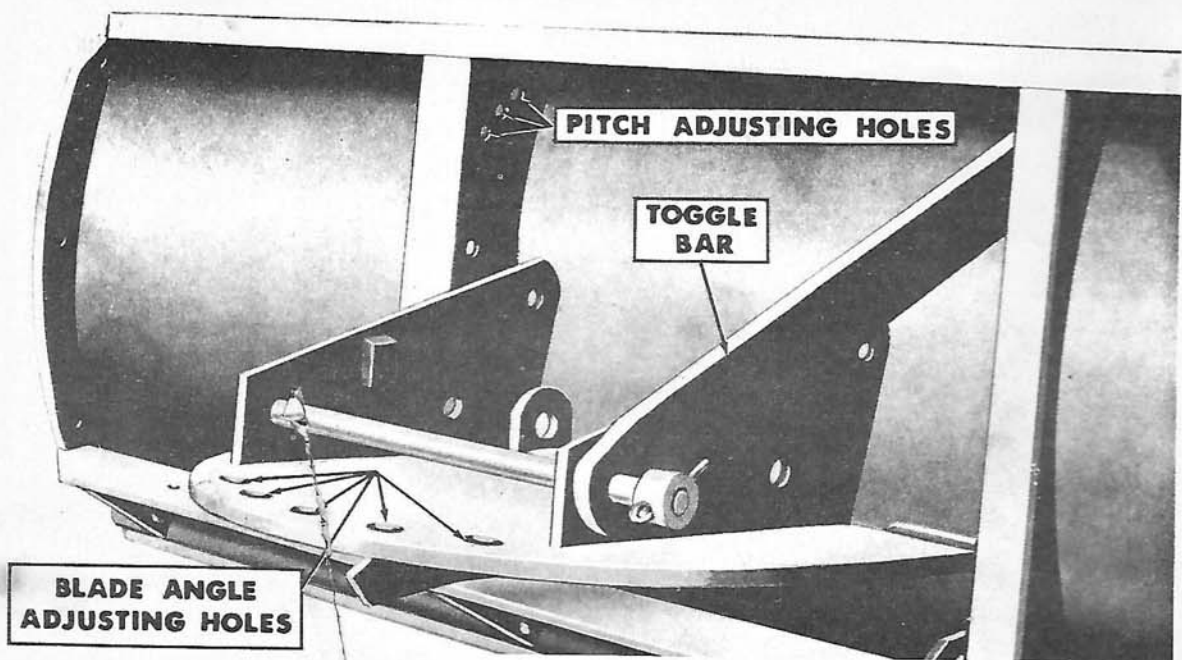
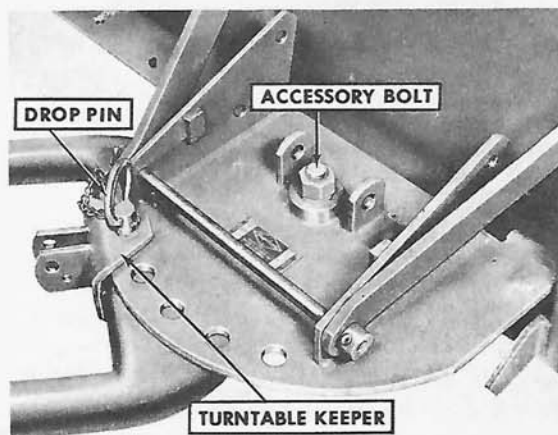

Figure 3
Figure 5
**Blade Pitch:** The pitch of the blade may be set in three different positions by moving the toggle bars to any of the three holes in the ribs as shown in Figure 3. For normal operations the toggle bars should be set at the center holes in the blade ribs. To increase blade penetration for working hard ground, attach the toggle bars at the top holes.
**Blade Angle:** The blade may be angled to the right or left to aid in moving material to either side. With the blade in a raised position, remove the drop pin and pivot the blade to align the desired adjusting hole in the turntable (Figure 3) with the turntable keeper hole (Figure 5) and reset the drop pin through these holes.
**Attaching:** With the blade blocked in an upright position, drive the tractor slowly toward the blade turntable until the keeper on the dozer frame lift arm engages the turntable (see Figure 5).
3. Insert the drop pin, Figure 5, through the keeper and appropriate turntable hole to lock the blade in position. Lower the blade to the ground.
1. Remove the accessory mounting bolt, (see Figure 5), lockwasher and nut from the blade turntable and lift arm pivot block.
2. Pull the drop pin, Figure 5, from the turntable keeper. Block the blade in an upright position and back the tractor away from the blade.